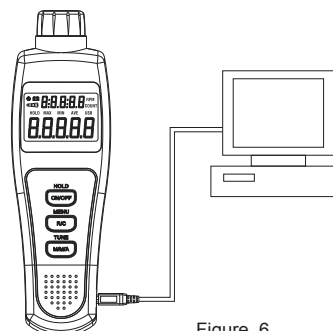

Figure 6
C. Data Transferring and USB (UT372 Only, See Figure 6)
Connect the meter to PC with use of USB cable. See Figure 6.